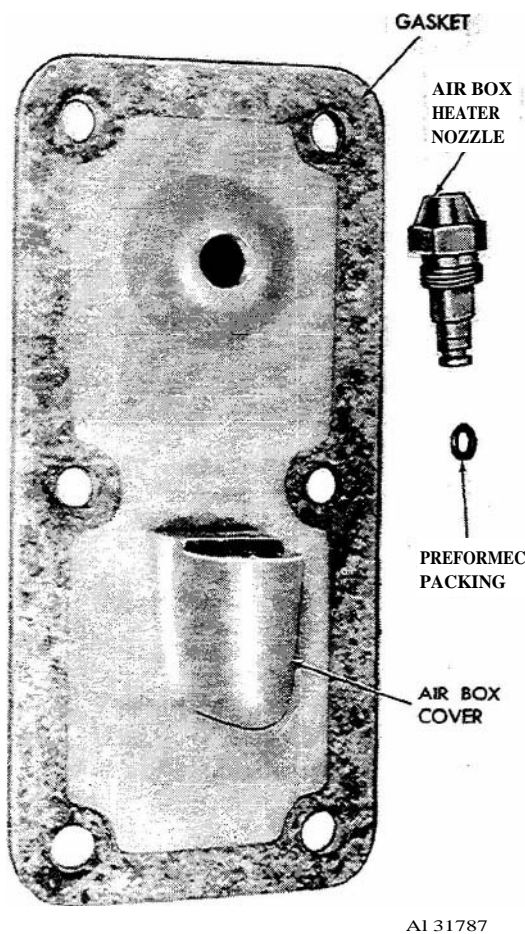

Figure 2-17. Air box heater nozzle, removal and installation.
(9) Disconnect air box heater nozzle (fig 2-17) from air box cover. Remove preformed packing from nozzle. Remove gasket from air box cover.
(1) Connect gasket (fig 2-17) to air box cover. Position preformed packing on air box heater nozzle and install nozzle in air box cover.